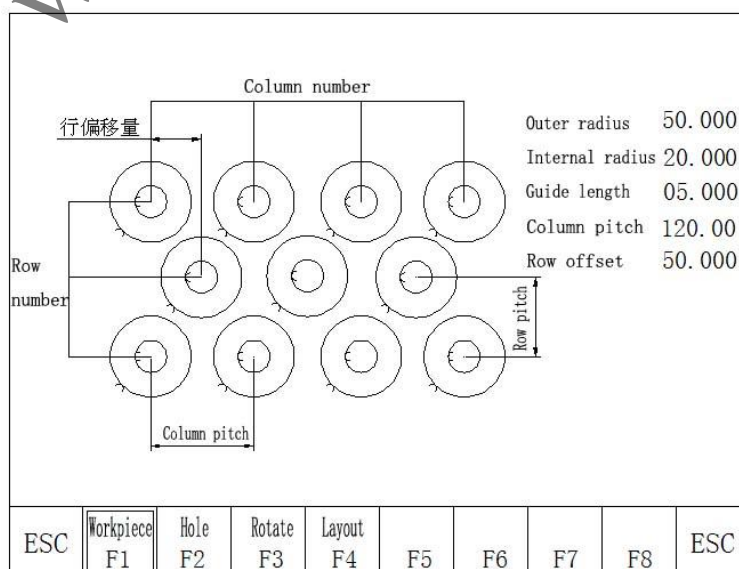

Fig. 8.3 Schematic diagram of part layout
**Row offset**----The deviation of raw misplacement, as shown in Fig. 8.3.